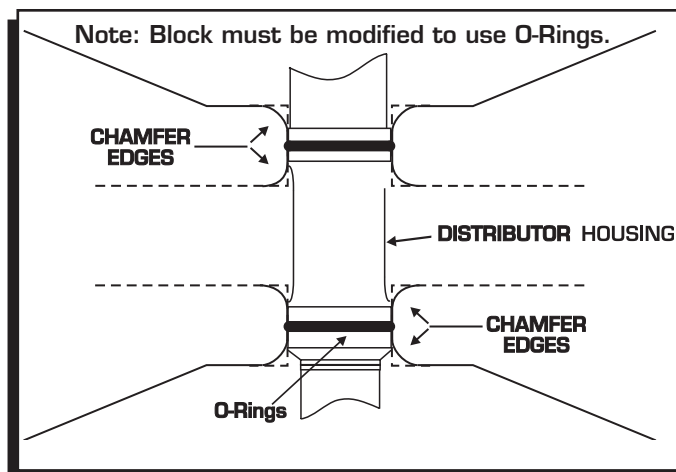

Figure 5 Chevy Blocks must be modified to accept O-rings.
7. **Chevrolet PN 7908 and PN 79083 only:** Install the gasket and apply a liberal amount of the supplied lubricant to the distributor gear and O-rings. (The supplied O-rings can **only** be used if the block has been modified as shown in Figure 5.)